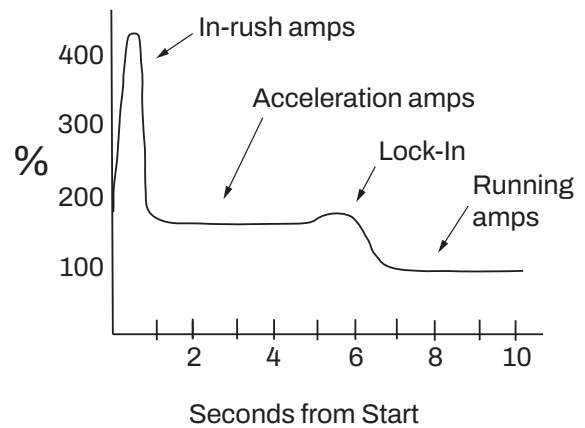

Figure 2 - Flow Charge Ratio
5. Push start button. Observe motor current during load acceleration and number of seconds required to reach full speed (Fig. 2).